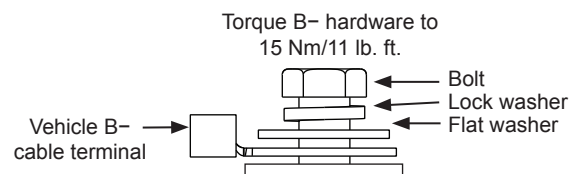

Figure 3: B- Terminal Hardware Stacking Order
7. Connect vehicle B- cable to alternator B- terminal. Install B- hardware in stacking order shown in Figure 3. Torque to 15 Nm/11 lb. ft.